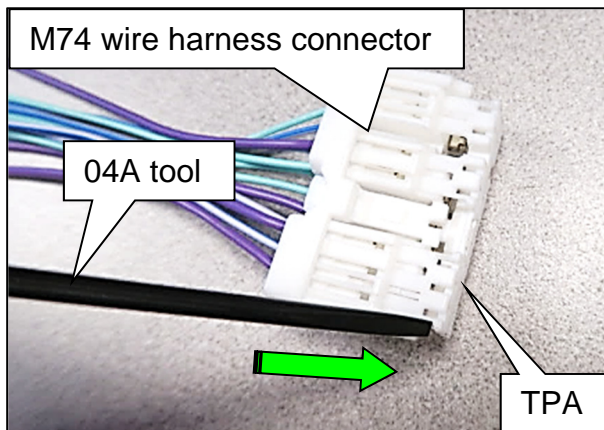

Figure 24
24. Using the 04A tool of the Terminal Release Tool, special tool NI-48817-1, disengage the TPA from the M74 wire harness connector, as shown in Figure 24.